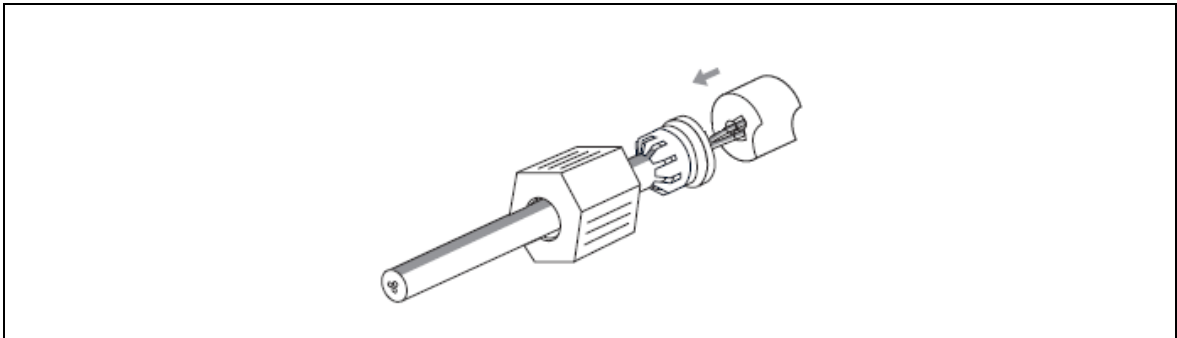

Figure 13 Assembling the QUICKON® fast-connect plug (3)
- 4 Insert the wire core ends into the openings in the splice ring (refer to Figure 13). The individual wire holes in the splice ring are numbered (1 and 2) so that wire ends can be clearly assigned.